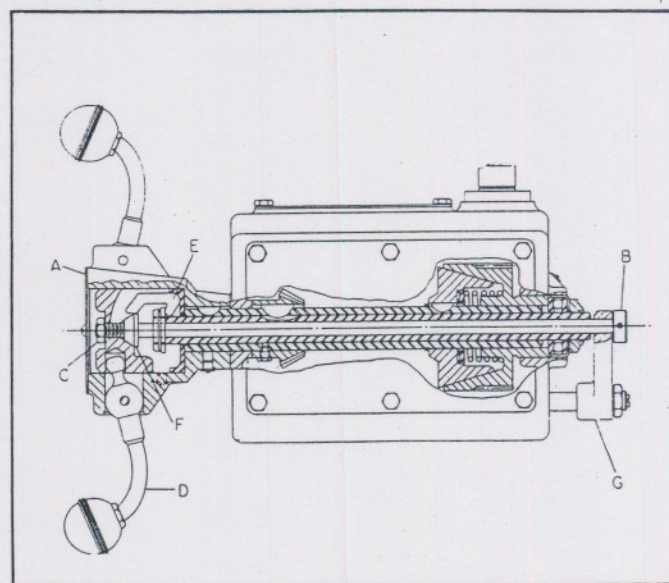

Fig. 14.
Fig. 14 shows the power feed, cut away, in cross section. This cut away illustrates the unit in the engaged position and shows the proper relationship between the clutch fingers (E) Fig. 14 and the flat of the cam (F). There are six fingers in the hub, but for the sake of clarity, only one is shown. When the handles are brought forward, the front portion of the clutch fingers slides down over the tapered portion of the cam (F) Fig. 14. When the power feed is engaged the handles must go far enough to the rear to bring the clutch fingers (E) up to a point where they are resting on the flat of the cam (F). If the clutch is improperly adjusted, the handles cannot be depressed far enough to the rear to bring the fingers to the top of the flat, and if they are resting on the taper, the power feed will slip out of engagement. If this occurs, it will then be necessary to increase the throw of the handles as follows:
1. Remove the power feed name plate (A) Fig. 14, which covers the hub.
2. Hold the collar (B) Fig. 14 with a pair of pliers and loosen the 3/8" nut (C) about three turns at the front of the plunger in the hub, using a 9/16" socket.
3. Turn the collar (B) Fig. 14 counterclockwise about three turns.
4. Hold the collar (B) Fig. 14 again with pliers and tighten the 3/8" nut (C).